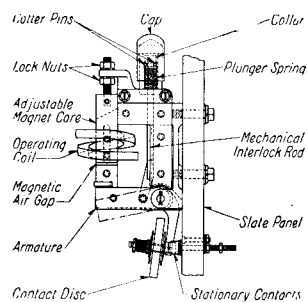

Fig. 13—Sectional View of Type KS Series Accelerating Relay
37. The value of the current at which the moving magnet armature (see Fig. 13) falls, is fixed by the adjustment of the air-gap. Lowering the moving magnet core by means of the screw and lock nuts above it, decreases the air-gap and lowers the value of the current at which the relay operates. Increasing the air-gap, raises the current value at which it operates and causes the relay disc to drop at a higher current.
40. If at any time the relay contacts need renewing, they can be ordered from any agent or district office. When ordering repair parts, specify the name of the part as shown in Fig. 13 and give the information requested on page 12.